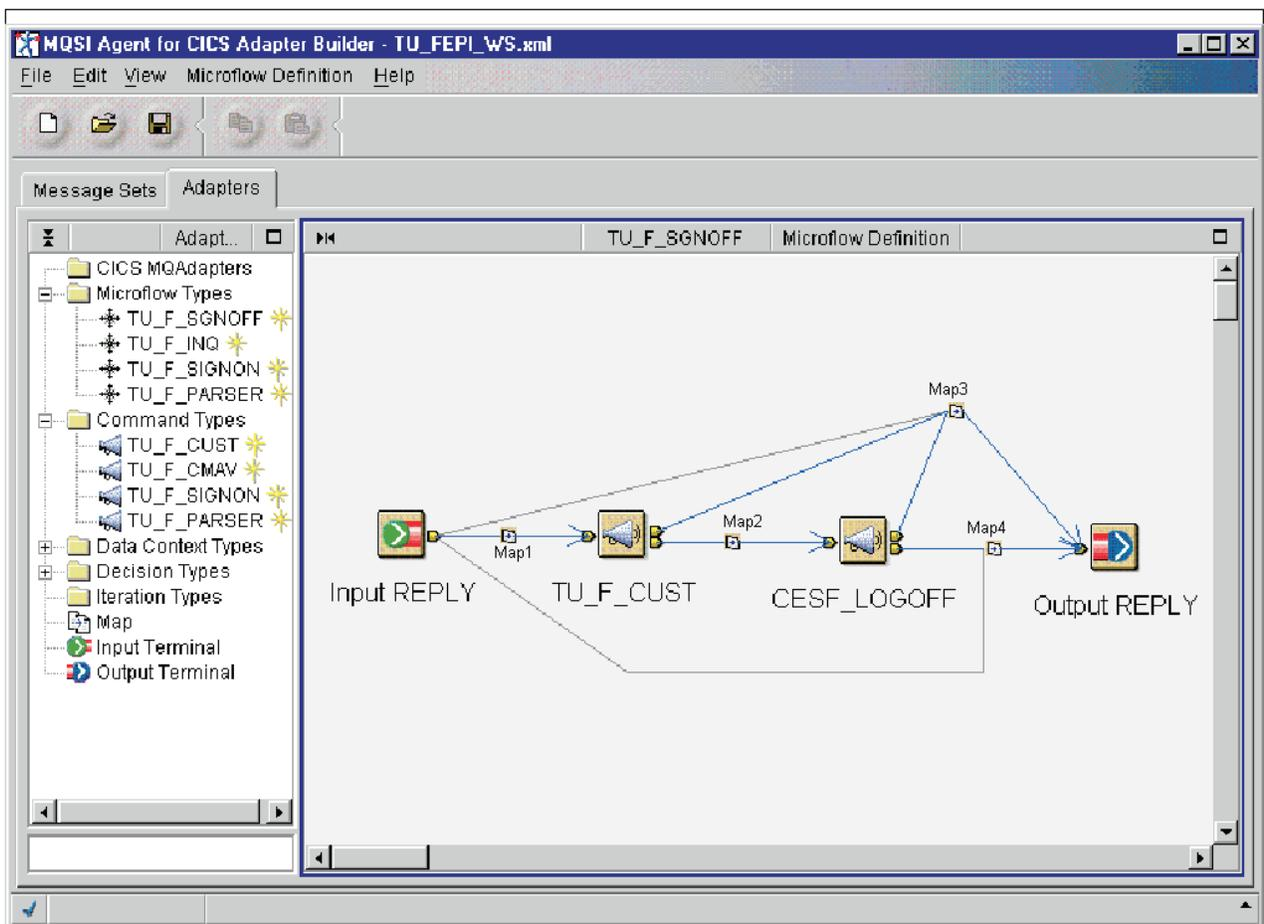

Figure 140. TU\_F\_SGNOFF
1) Right click on the Input REPLY node and select **Connect > Out**. Move the connection line to the TU\_F\_CUST node and left click. This adds a control connection and a map (Map1 node) between the two nodes. Refer to Figure 140 on page 182.